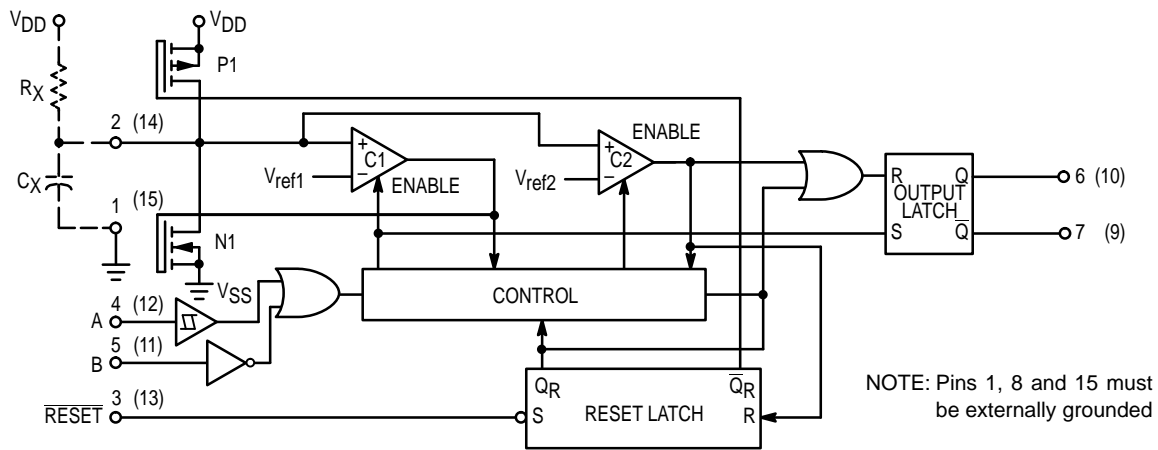

Figure 1. Logic Diagram (1/2 of Device Shown)
The block diagram of the MC14538B is shown in Figure 1, with circuit operation following.
As shown in Figure 1 and 10, before an input trigger occurs, the monostable is in the quiescent state with the Q output low, and the timing capacitor C_X completely charged to V_{DD}. When the trigger input A goes from V_{SS} to V_{DD} (while inputs B and Reset are held to V_{DD}) a valid trigger is recognized, which turns on comparator C1 and N-channel transistor N1 ①. At the same time the output latch is set. With transistor N1 on, the capacitor C_X rapidly discharges toward V_{SS} until V_{ref1} is reached. At this point the output of comparator C1 changes state and transistor N1 turns off. Comparator C1 then turns off while at the same time